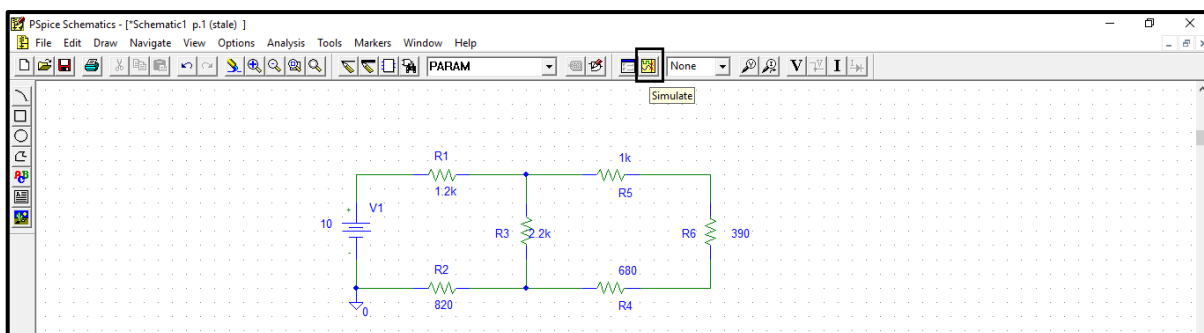

Figure.9
- Your schematic is finished now and ready for saving, click on “save” then on “simulate” button as shown in figure.9.